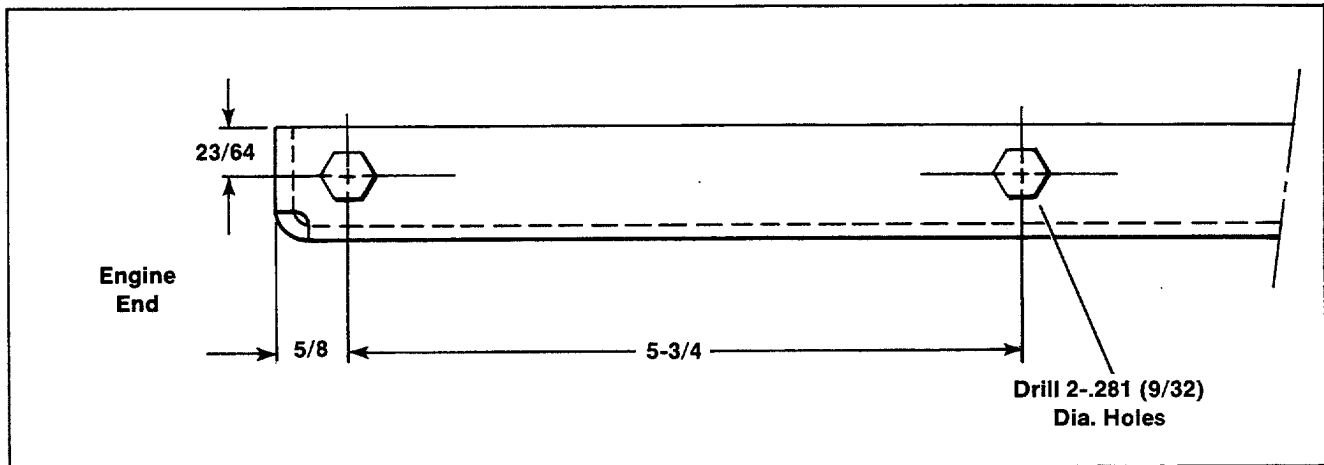

Figure 4. Drilling Instructions
1. Measuring 5/8 inch (16.0 mm) from the engine end and 23/64 inches (9.1 mm) from the top edge of the mounting tray, drill 2 holes .281 inches in diameter (9/32) 5-3/4 inches (146.1 mm) apart. See Figure 4.